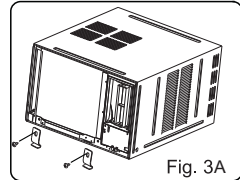

Fig. 3A
- Remove the two screw on the left and right chassis fixing brackets, then remove the two chassis fixing brackets as shown in Fig.3A.
2. Fix the screws on the frame (See Fig.3A,3B,3C,3D).